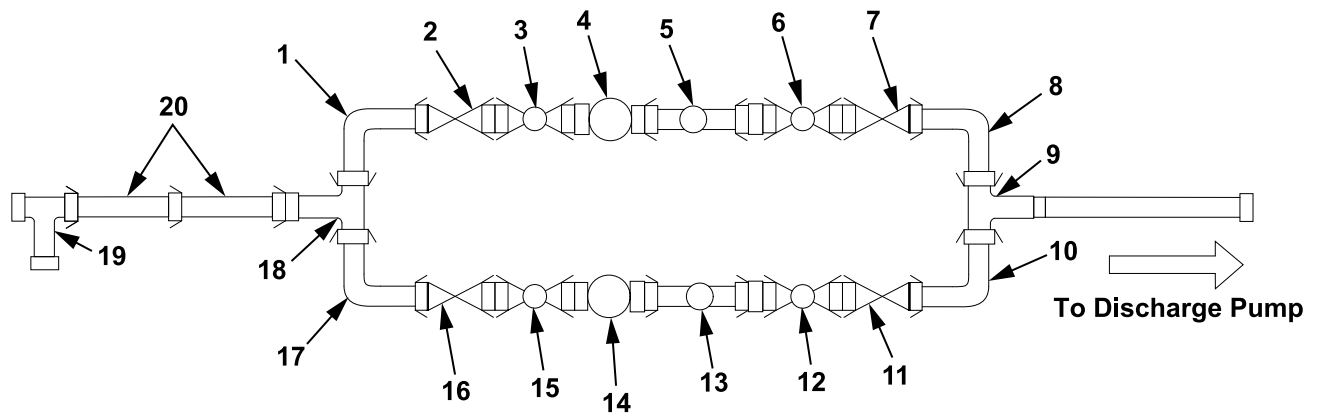

Figure 9. Installation of Filter-Separators.
3. Connect 4 in. X 25 ft hose (Figure 9, Item 8) to tee assembly (Figure 9, Item 9).
4. Connect the 4 in. X 25 ft discharge hose (Figure 9, Item 8) to gate valve (Figure 9, Item 7).
6. Connect a 4 in. ball valve (Figure 9, Item 6) to gate valve (Figure 9, Item 7).
8. Position filter-separator (Figure 9, Item 4) inside provided spill containment berm.
11. Connect filter-separator (Figure 9, Item 5) to ball valve (Figure 9, Item 6).
13. Connect the sampling probe adapter (Figure 9, Item 5) to filter-separator (Figure 9, Item 4). Refer to TM 10-4330-235-13&P.
14. Connect a 4 in. ball valve (Figure 9, Item 3) to the sampling probe adapter (Figure 9, Item 5).
16. Connect gate valve (Figure 9, Item 2) to 4 in. ball valve (Figure 9, Item 3).
18. Connect the 4 in. X 25 ft discharge hose (Figure 9, Item 1) to gate valve (Figure 9, Item 2).
20. Connect female X female X male tee assembly (Figure 9, Item 18) to the 4 in. X 25 ft discharge hose (Figure 9, Item 1).
22. Connect the sections of 4 in. X 10 ft discharge hose (Figure 9, Item 20) to tee assembly (Figure 9, Item 18).
24. Connect female X male X male tee assembly (Figure 9, Item 19) to the 4 in. X 10 ft discharge hose (Figure 9, Item 20).
26. Connect the 4 in. X 25 ft discharge hose (Figure 9, Item 17) to tee assembly (Figure 9, Item 18).
28. Position filter-separator (Figure 9, Item 14) inside provided spill containment berm.
30. Remove the sampling probe adapter (Figure 9, Item 13) from the filter-separator for testing product after filter-separator.
32. Connect gate valve (Figure 9, Item 16) to 4 in. X 25 ft discharge hoses (Figure 9, Item 17).
33. Connect 4 in. ball valve (Figure 9, Item 15) to gate valve (Figure 9, Item 16).
34. Connect sampling probe adapter (Figure 9, Item 13) to 4 in. ball valve (Figure 9, Item 15) for testing product after filter-separator.
35. Connect sampling probe adapter (Figure 9, Item 13) to filter-separator (Figure 9, Item 14) for testing product after filter-separator. Refer to TM 10-4330-235-13&P.
36. Connect a 4 in. ball valve (Figure 9, Item 12) to filter-separator (Figure 9, Item 14).
38. Connect gate valve (Figure 9, Item 11) to 4 in. ball valve (Figure 9, Item 12).
40. Connect the 4 in. X 25 ft discharge hose (Figure 9, Item 10) to gate valve (Figure 9, Item 11).
41. Connect the 4 in. X 25 ft discharge hose (Figure 9, Item 10) to tee assembly (Figure 9, Item 9).